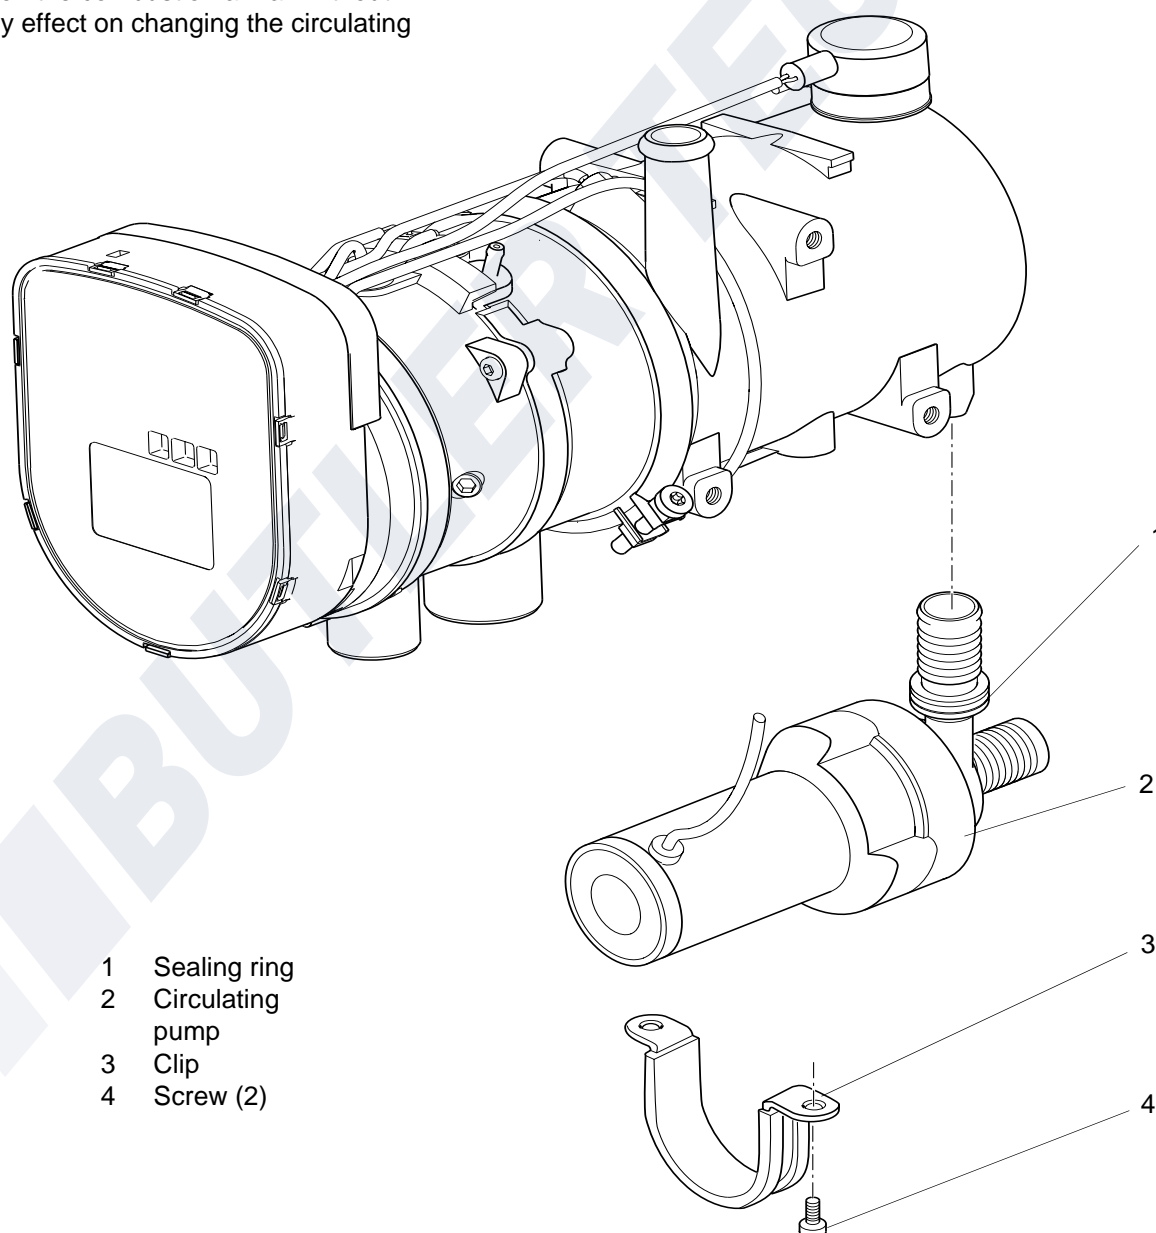

Fig. 902 Changing the circulating pump
3. Remove the screws (4, Fig. 902).
4. Remove the clip (3) and circulating pump (2).
1. Apply acid-free grease (Vaseline) to the sealing ring (1, Fig. 902).
2. Place the circulating pump (2, Fig. 902) in the assembly position and attach with the clip (3) and screws (4).
3. Tighten the screws (4) to  $3 \text{ Nm} \pm 10\%$ .